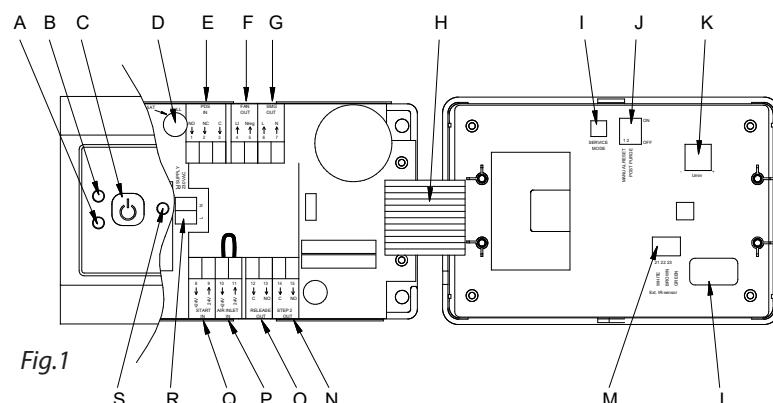

Fig.1
Check the factory-set DIP switch setting before commissioning (Fig. 1-J).
- Press ON/OFF button (Fig. 1-C).
- Press the service mode button (Fig. 1-I) on the back of the cover. Alarm LED (Fig. 1-A) will flash RED, and the operating LED (Fig. 1-B) will flash according to the position of the pressure switch – see the table below:
- The potentiometer (Fig. 1-K) is set to maximum by turning clockwise.
- Slowly increase the pressure switch setting until it cuts out (you will hear a click) or until the operating LED (Fig. 1-B) changes from GREEN to RED.
- Press ON/OFF button (Fig. 1-C). Service mode is now deactivated.